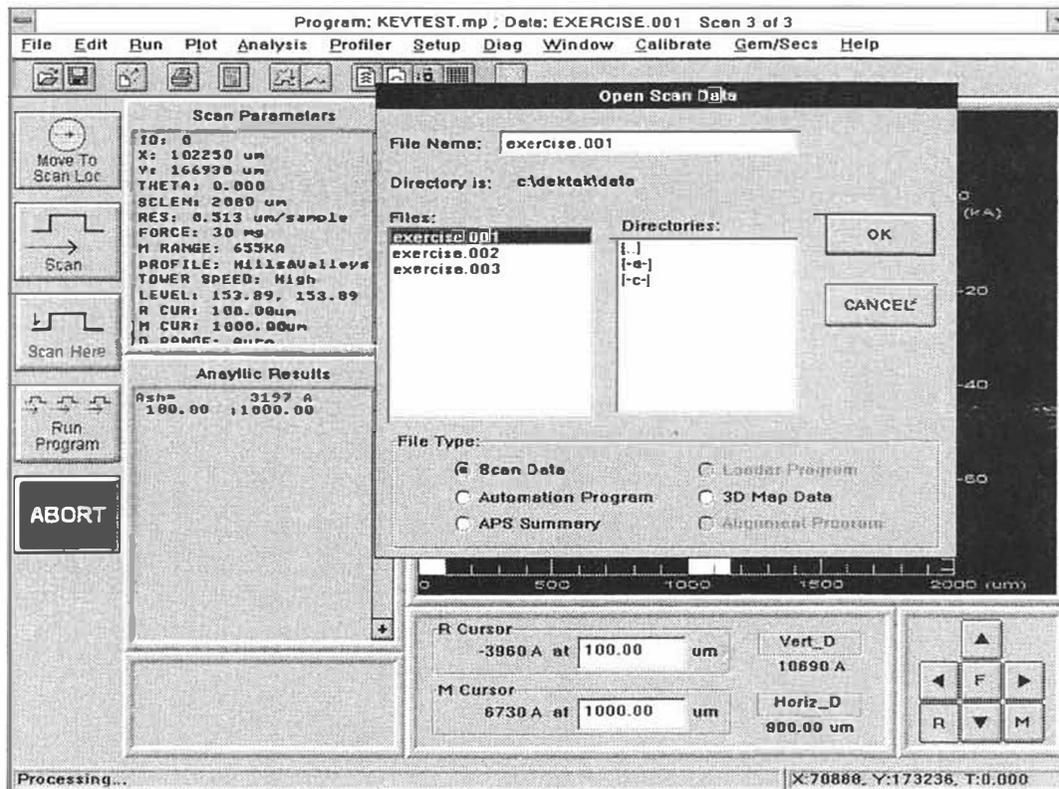

Figure 5-10. Load Data File Directory
3. Click-on "Open" from the File Menu and click-on "Single Scan" from the sub-menu. A directory listing will be displayed of the saved data plot screens. The data plot screen from scan routines 1, 2, and 3 are filed under "EXERCISE.001", "EXERCISE.002" and "EXERCISE.003" respectively (see Figure 5-10).